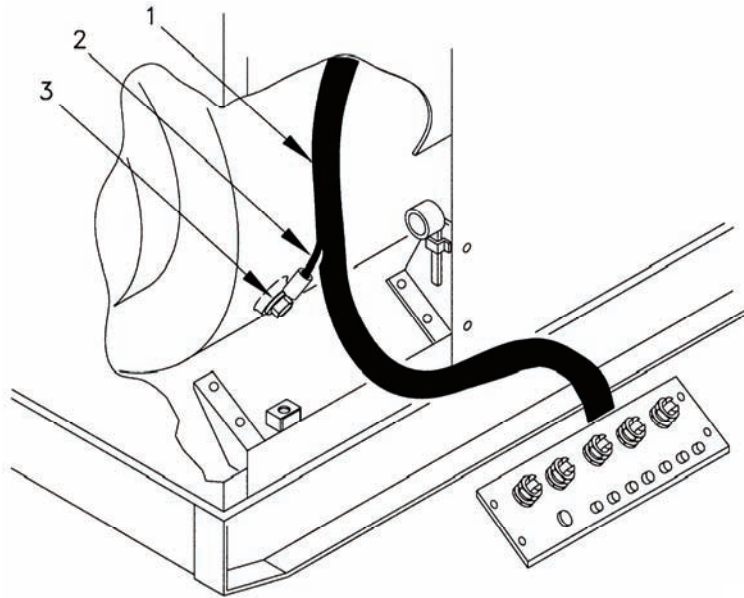

Figure 5-40.1. Harness Shielding.
- a. Install EMI/RFI shielding (1, Figure 5-40.1) (Item 130, Table 5-1) and ground strap (2) (Item 137, Table 5-1) to harness.
- b. Attach ground strap (2) to ground stud (3) on generator using existing hardware.